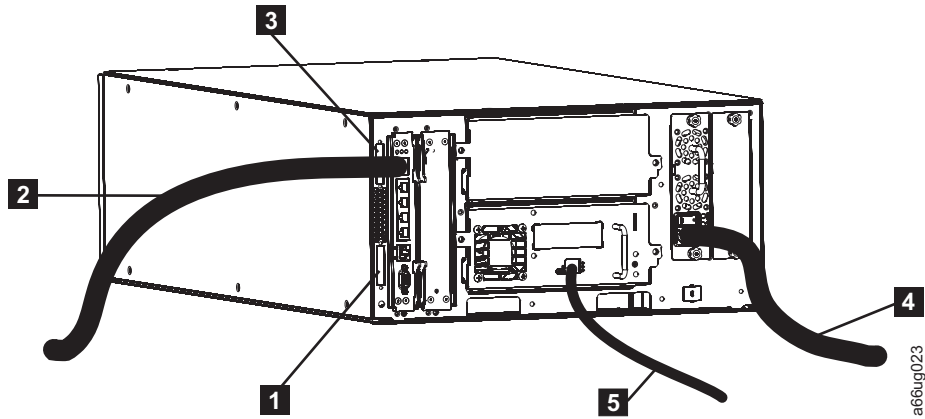

Figure 3-40. Cabling of a 5U library with fibre drives
1. Install the upper module communication terminator (**3** in Figure 3-40).
2. Install the lower module communication terminator (**1** in Figure 3-40).
3. Connect one end of the customer-supplied Ethernet cable (**2** in Figure 3-40) in the Library Control Blade Ethernet port, then connect the other end of the cable to your network.
4. Connect one end of the drive-to-host cable (**5** in Figure 3-40) to the library, then connect the other end of the cable to your network. Repeat this for every drive in your library.
5. Connect one end of the power cord (**4** in Figure 3-40) in the receptacle in a power supply in your library, then connect the other end of the cord to your power source. Repeat this for every power supply in your library.